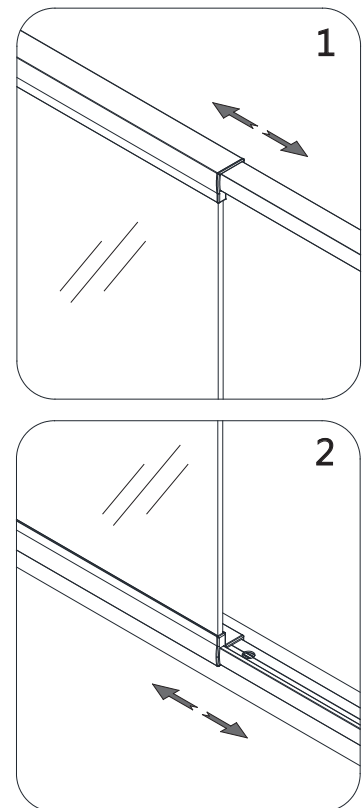

Fig 6
6. Place the assembly onto the threshold at the desired location and extend the expandable **Top & Bottom Pivot Rails (#15)** evenly. **(Fig 6)**